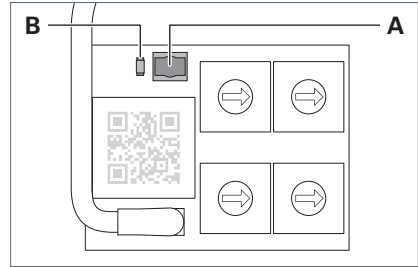

Fig. 14: Key and LED.
- Press the key **A** and keep it depressed for 20 seconds, see Fig. 14.